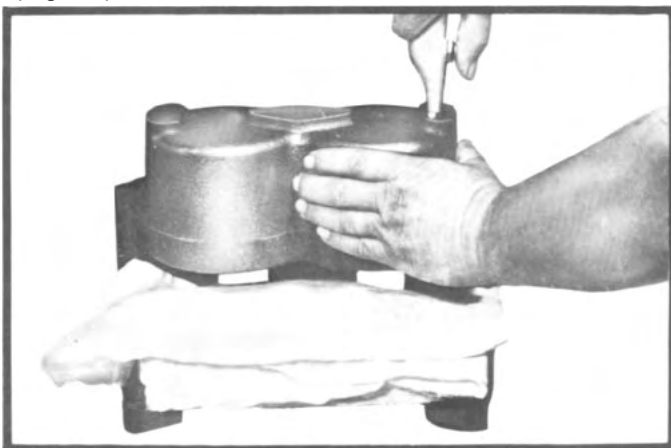

Fig. 29 — Removing pistons from caliper bore.
(1) Remove caliper assembly as explained on Page 21.
(2) Disconnect the hydraulic hose and cap or tape the fitting to prevent dirt from entering the hydraulic line.
(3) Check the brake hose for worn spots, cracks or other signs of deterioration. Discard the hose if damaged.
(4) Drain brake fluid from caliper.
(5) Thoroughly clean the exterior of caliper.
(6) Place a small block of wood under caliper pistons. (Approximately 2" thick) Pad the exterior of the caliper with a clean shop towel. Remove the pistons by directing compressed air into the caliper fluid inlet. (Fig. 29)